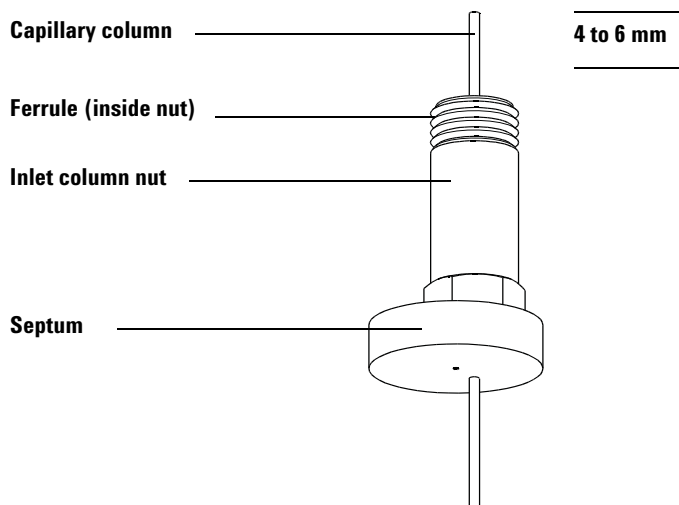

Figure 6 Installing a capillary column for a split/splitless inlet
- 7 Position the column so it extends 4 to 6 mm past the end of the ferrule (Figure 6).